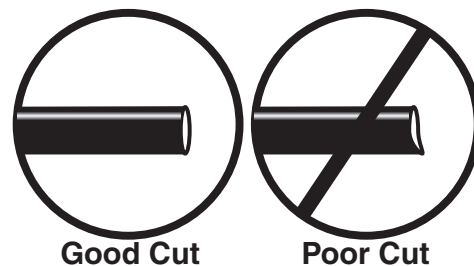

fig. 12
3. Cut the air line assembly (AA) in two equal lengths.
- WHEN CUTTING OR TRIMMING THE AIR LINE, USE A HOSE CUTTER, A RAZOR BLADE OR A SHARP KNIFE. A CLEAN, SQUARE CUT WILL ENSURE AGAINST LEAKS. DO NOT USE WIRE CUTTERS OR SCISSORS TO CUT THE AIR LINE. THESE TOOLS MAY FLATTEN OR CRIMP THE AIR LINE, CAUSING IT TO LEAK AROUND THE O-RING SEAL INSIDE THE ELBOW FITTING (FIG. 12)
7. On the passenger side only, place the provided thermal sleeve (S) on the air line near the exhaust.
8. Cut off air line leaving approximately 12" of extra air line. A clean square cut will ensure against leaks (see fig. 12). Insert the air line into the air fitting. This is a push to connect fitting. Simply push the air line into the 90° swivel fitting until it bottoms out (9/16" of air line should be in the fitting).
- a. Check the air line connection by deflating the spring and removing the line by pulling the collar against the fitting and pulling firmly on the air line. Trim 1" off the end of the air line. Be sure the cut is clean and square (see fig. 12). Reinsert the air line into the push-to-connect fitting.